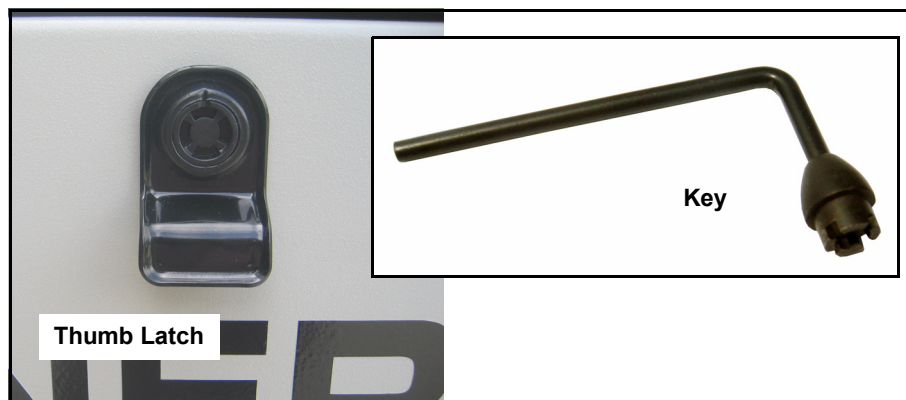

Figure 3-2. Access Panel Key
1. Insert key into latch and rotate counterclockwise 1/2 turn. See Figure 3-2.